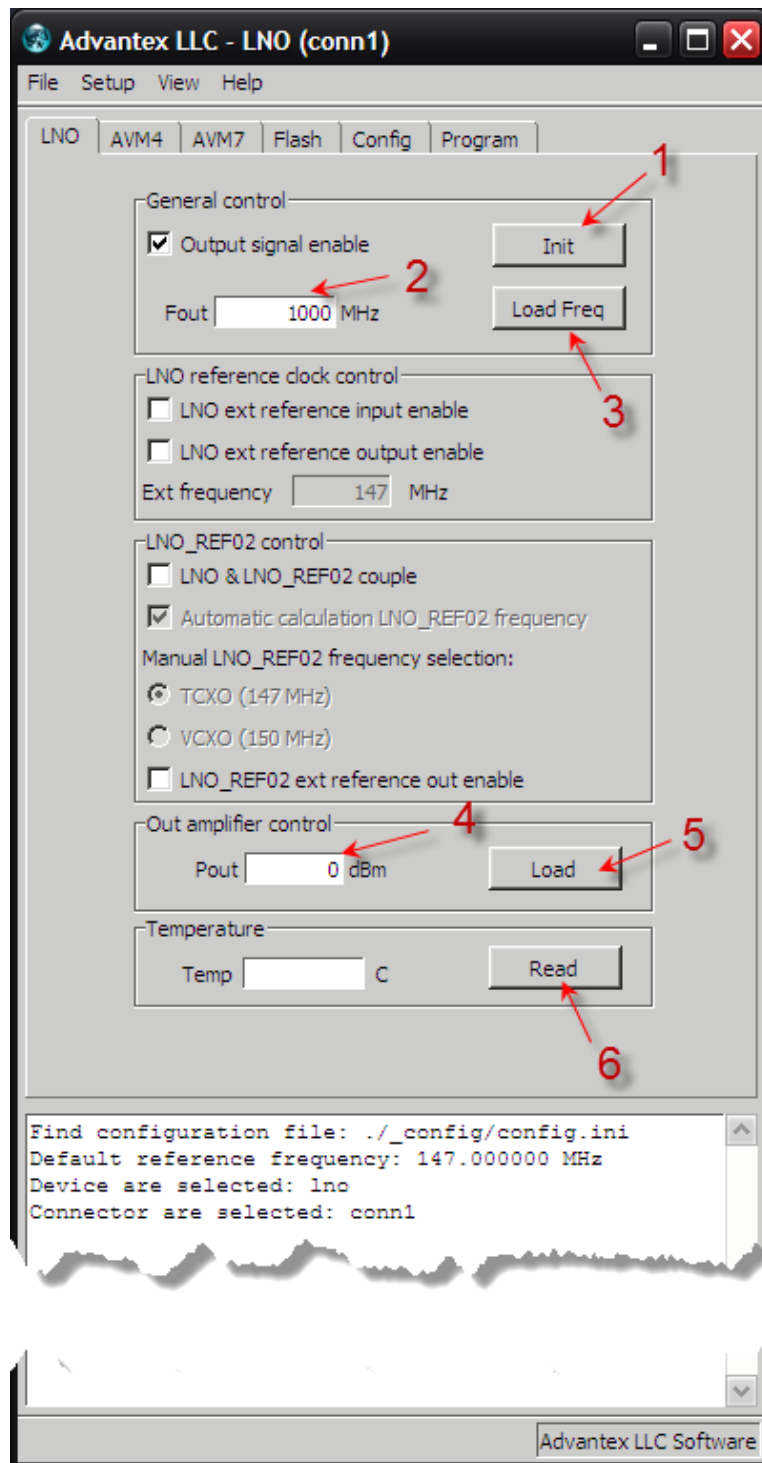

Figure 10: LNO tab
10. To start working with LNO-module press Init button (fig. 10, Item 1), then you can load frequency or output level without Init button. Please note that after each frequency loading output level is automatically reset to minimum value, so you need to load it pressing Load button (Item 5).